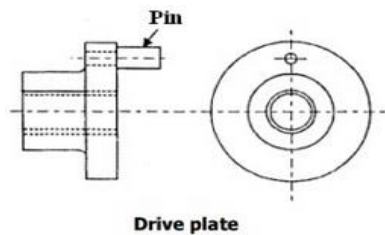

Figure 3.13 Drive plate
a) The drive plate, as shown in Fig. 3.13 is a circular plate which is bored out and threaded so that it can be attached to the spindle nose.